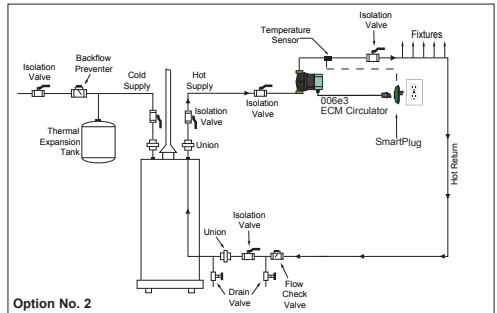

Figure 3: Installation Diagram (For reference only)
1. Install the SmartPlus-e 006e3 circulator in-line on the DHW supply line as shown in Figure 3. Be sure the directional arrow on the casing is installed with the arrow pointing away from the hot water source.
2. Install all other system components as shown in the piping diagram in Figure 3.